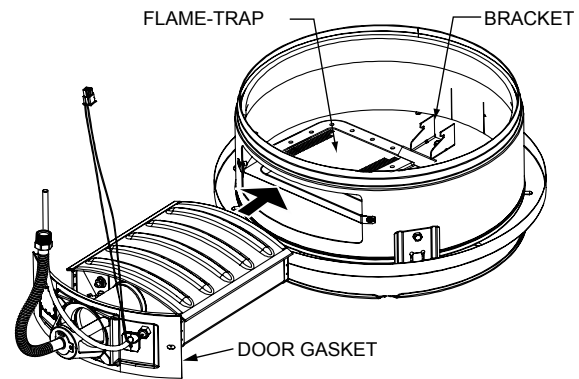

FIGURE 30.
2. Use a vacuum cleaner/shop vac to remove all loose debris in the combustion chamber (Figure 30). Use compressed air to clear any dust or debris that may have accumulated in the flame trap (flame arrestor).
3. Insert the burner assembly into the burner compartment, making sure that the burner assembly sits firmly against the burner bracket inside the combustion chamber (Figure 30).